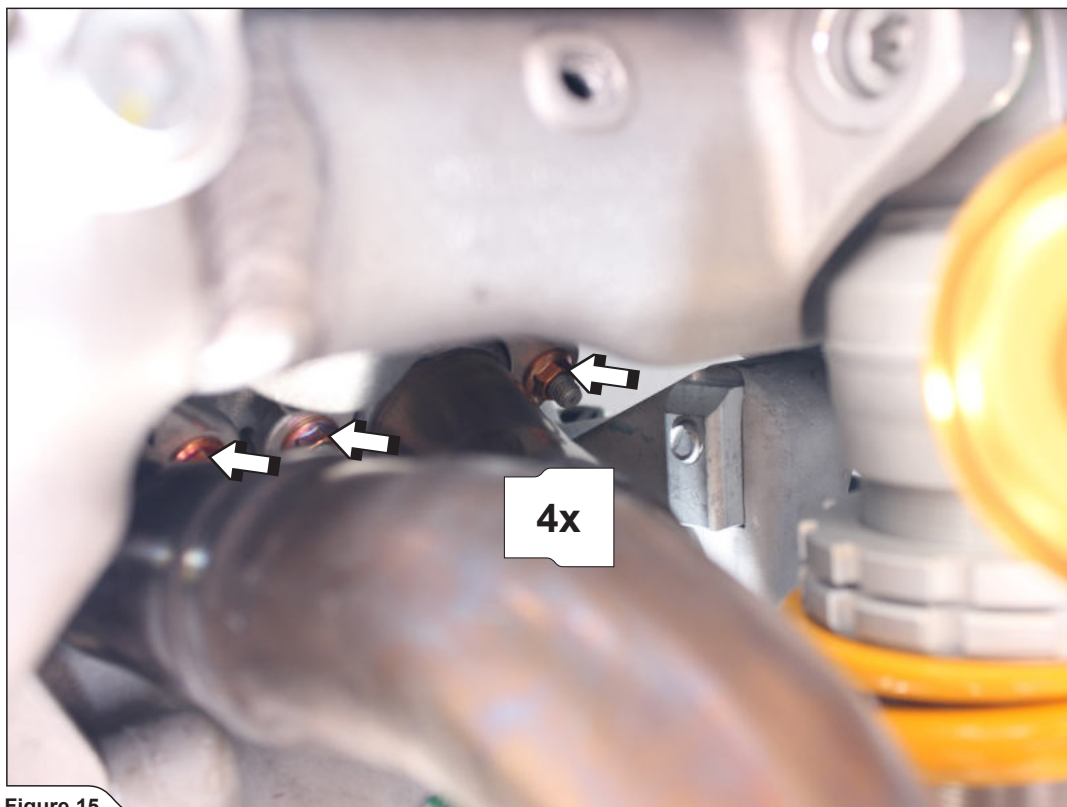

Figure 15
10. Unscrew the rear headers' flange nuts and carefully remove the headers off the motorcycle (Figure 15).